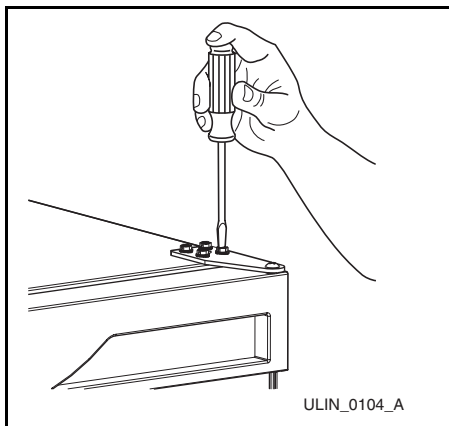

Figure 30
- Remove pivot screw from top hinge, invert screw and reinstall pivot screw in top hinge. See Figure 30.
2. Remove top hinge from cabinet (four screws) **(Figure 30)**. Hold door to keep it from falling.